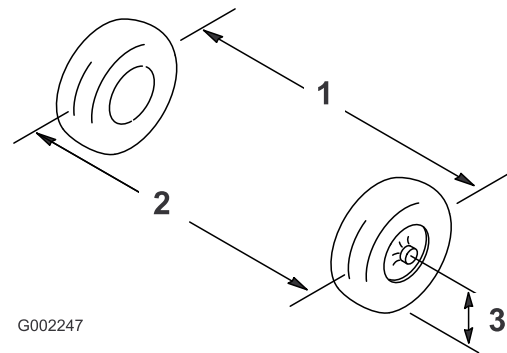

Figure 80
2. Measure the distance between both of the front tires at the axle height at both the front and rear of the front tires (Figure 80).